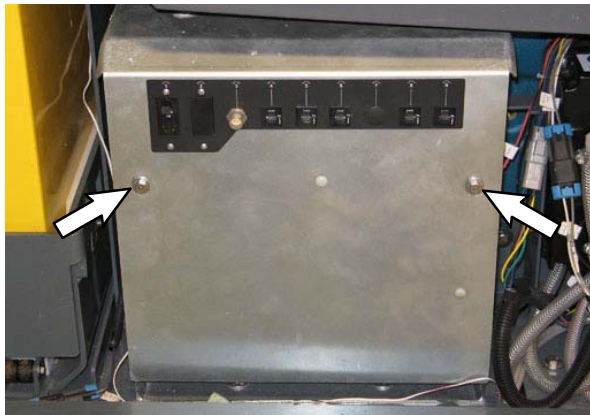
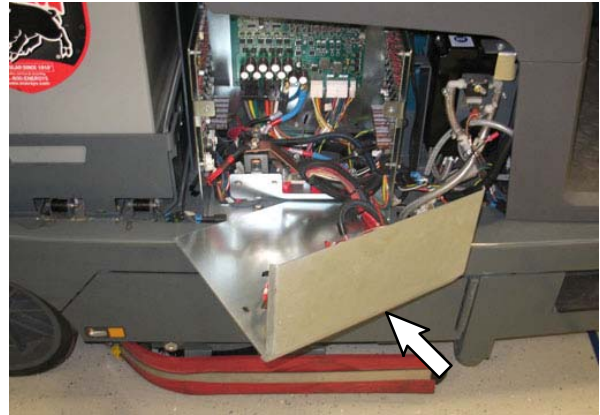

FIG. 1
FIG. 2
9. Remove the SEMS M6 hex screws securing the electrical enclosure cover to the electrical enclosure. Set the SEMS M6 hex screws aside. (Fig. 1)
10. Carefully remove the electrical enclosure cover from the electrical enclosure and position as shown. **Do Not** break or damage wires / wire connections when removing the electrical enclosure cover from the electrical enclosure. (Fig. 1 / Fig. 2)